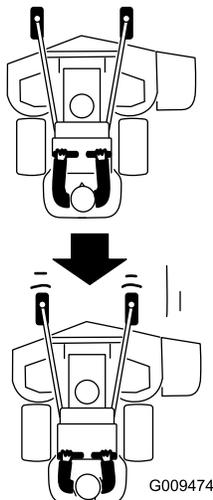

Figure 24
2. Slowly pull the motion control levers rearward (Figure 24).